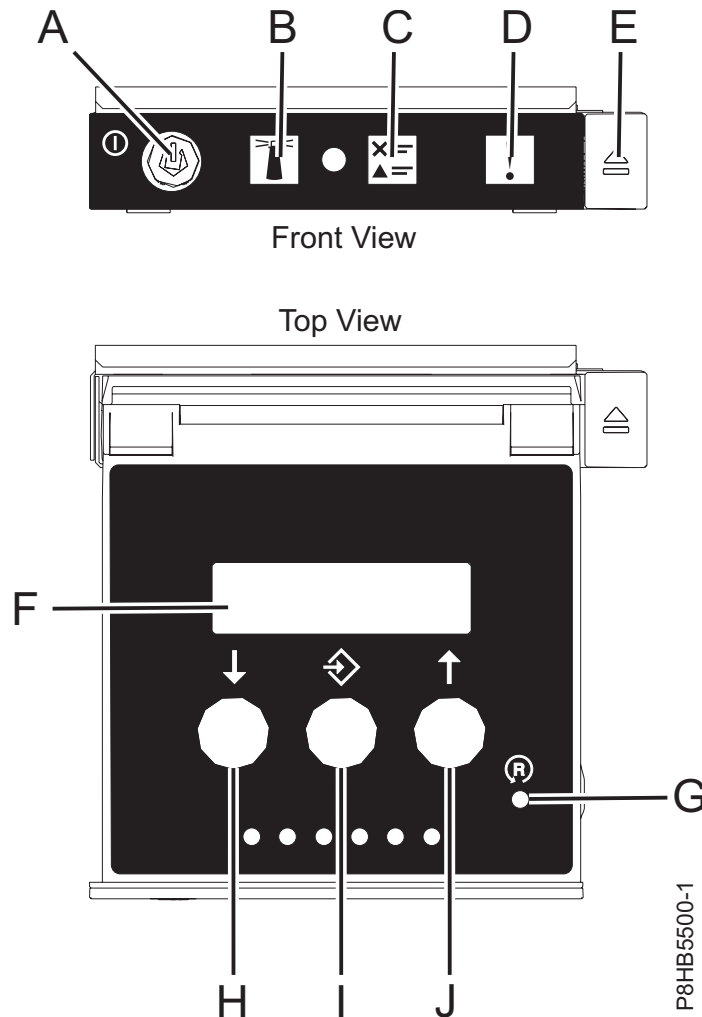

Figure 39. Pinhole switch that is on the control panel
If you are still not able to access the service network, reset the service processor by pressing the pinhole switch (G) on the control panel. See Figure 39.